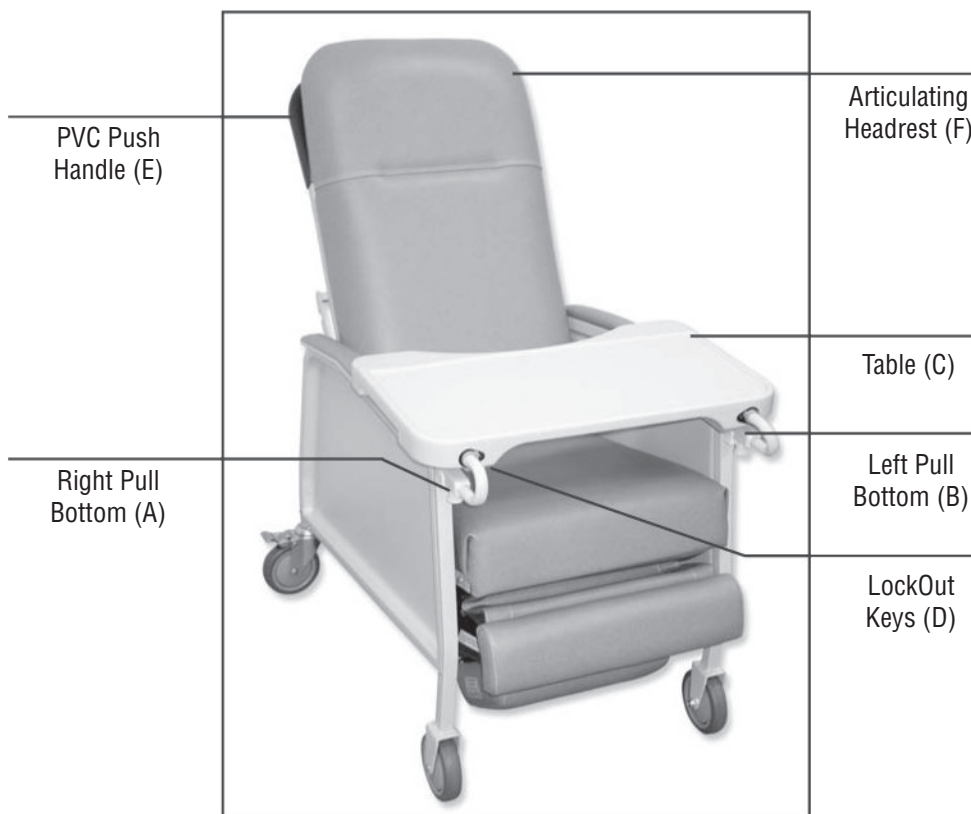

Figure 2
1. Underneath each arm, pull down and hold button (fig. 2 A & B) and slide lockout keys forward on both sides (D).